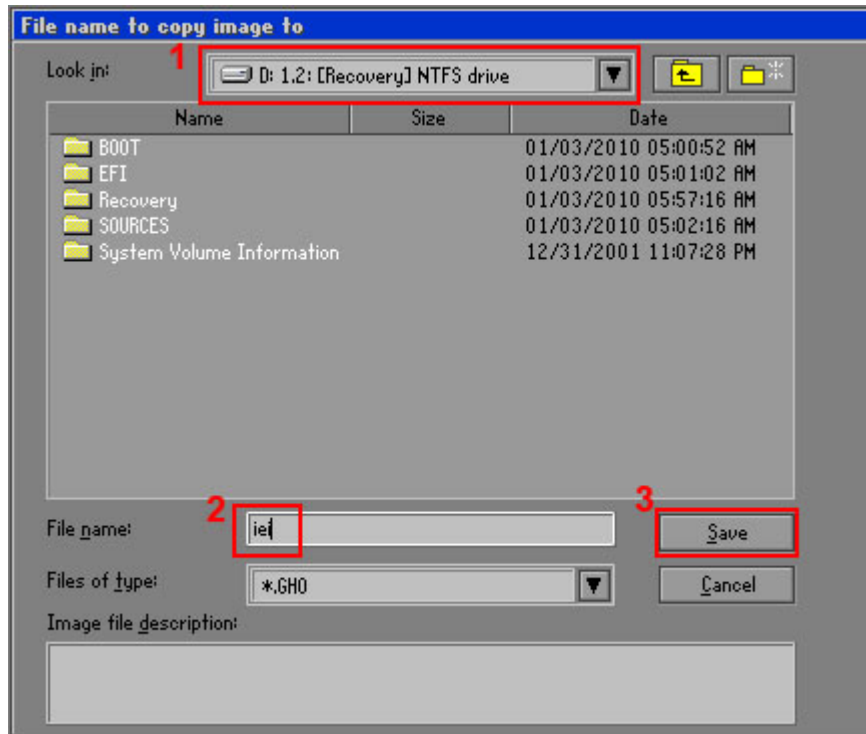

Figure B-13: File Name to Copy Image to
Step 7: Select **1.2: [Recovery] NTFS drive** and enter a file name called **iei** (Figure B-13). Click **Save**. The factory default image will then be saved in the selected recovery drive and named IEI.GHO.